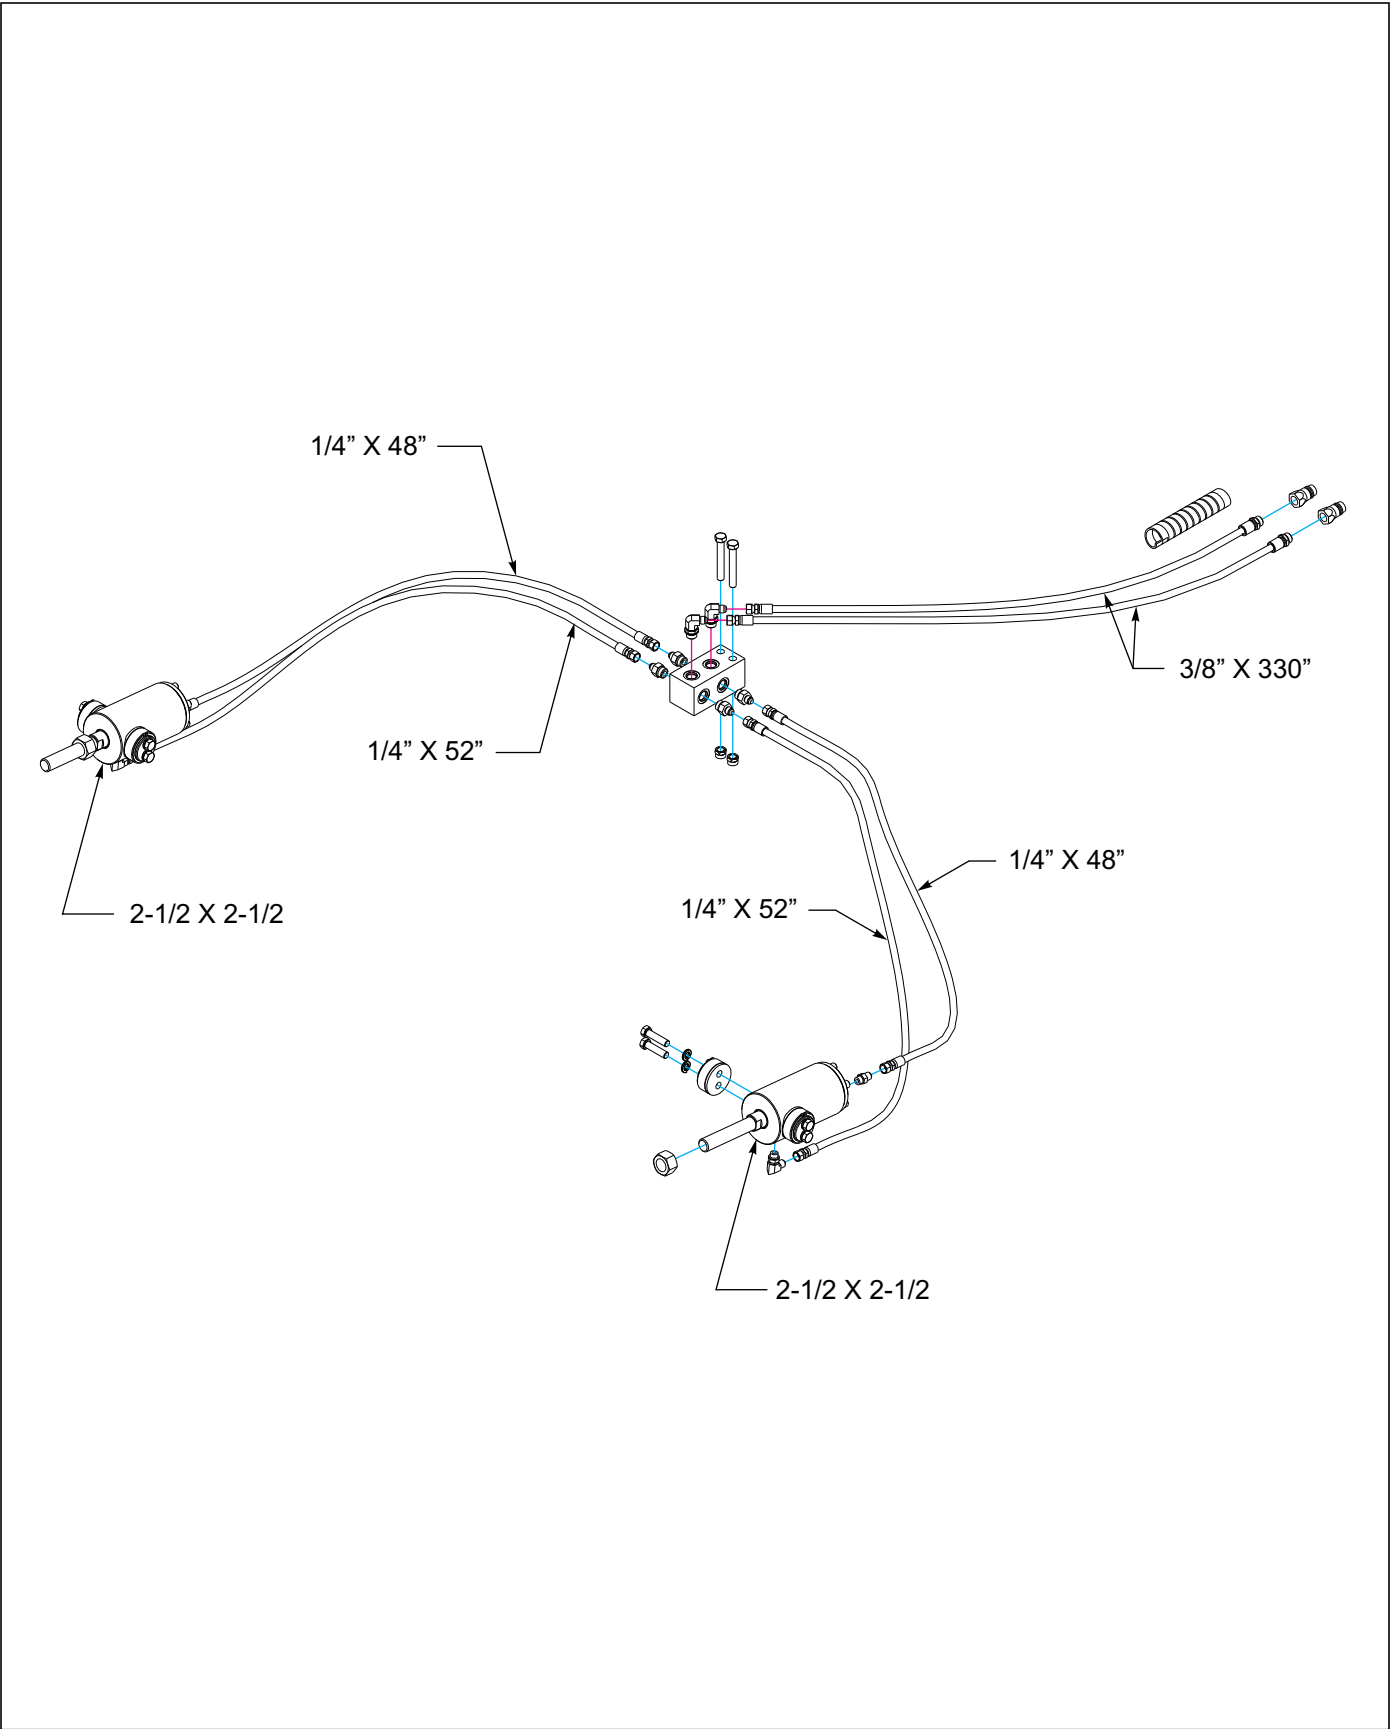

Figure 3-11: Hydraulic Reel Installation - 12'
12. See Figures 3-11 and 3-12 for hydraulics assembly.